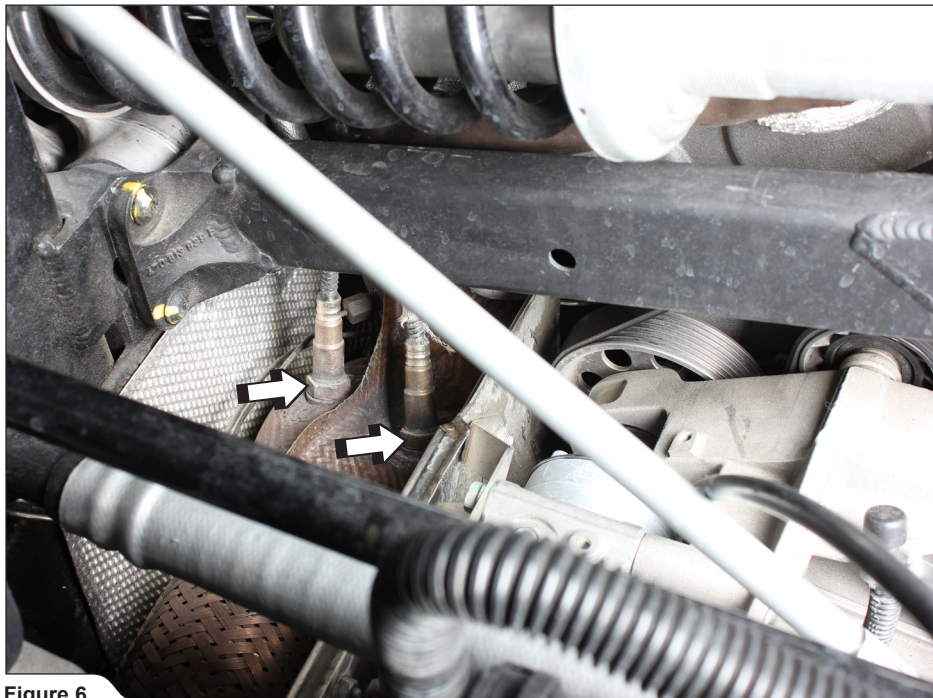

Figure 6
7. Unscrew the lambda and temperature sensors out of both link pipes (**Figure 6, 7, 8, 9**).